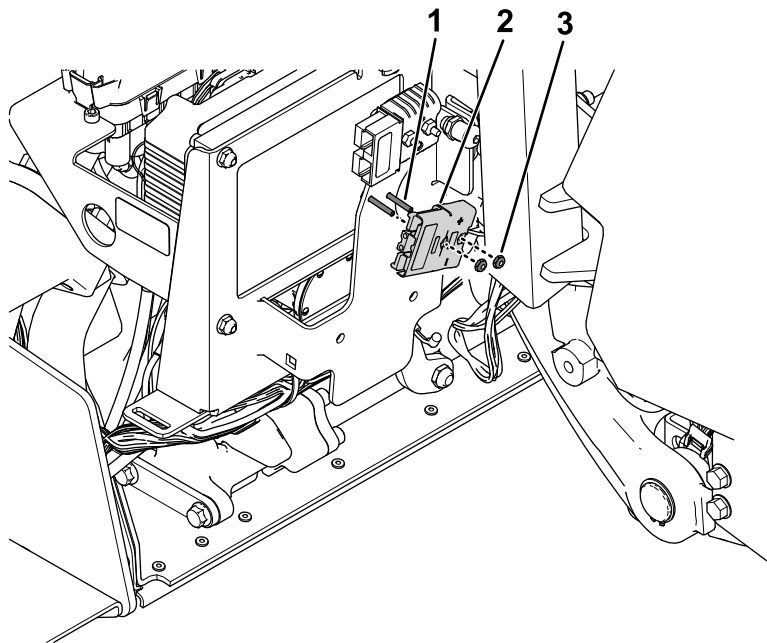

Figure 37
4. Remove the existing charging connector from the frame (Figure 37). Retain the connector and hardware.